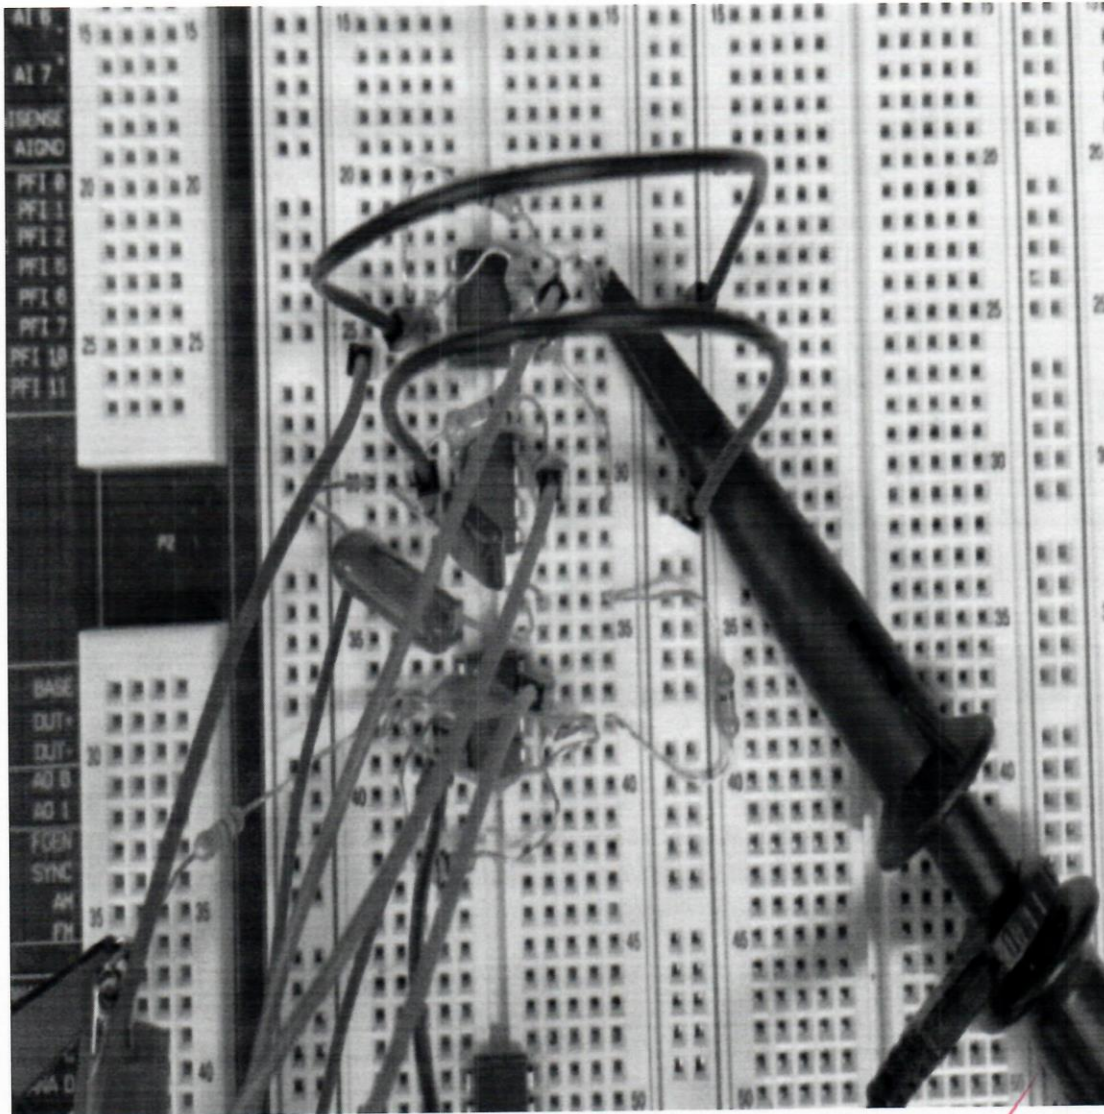

Figure 4: Physical Constructed Circuit
By following the schematic using (3) LM741 chips and calculated capacitors, lab participants would build a circuit on the breadboard. In order to obtain the gain ratio of 10 V/V , V_f and V_i would be 10k and 1k ohm respectively. The **Figure 4** below would show the completed circuit.